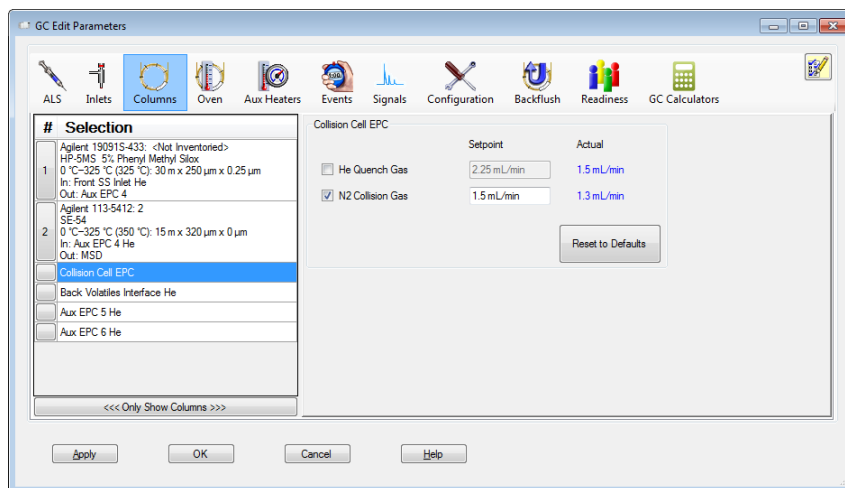

Figure 11 Setting the collision cell gas flow rate
- 2 Click the **Columns** icon to display control parameter entry screen for column and Aux flow modules. See Figure 11.